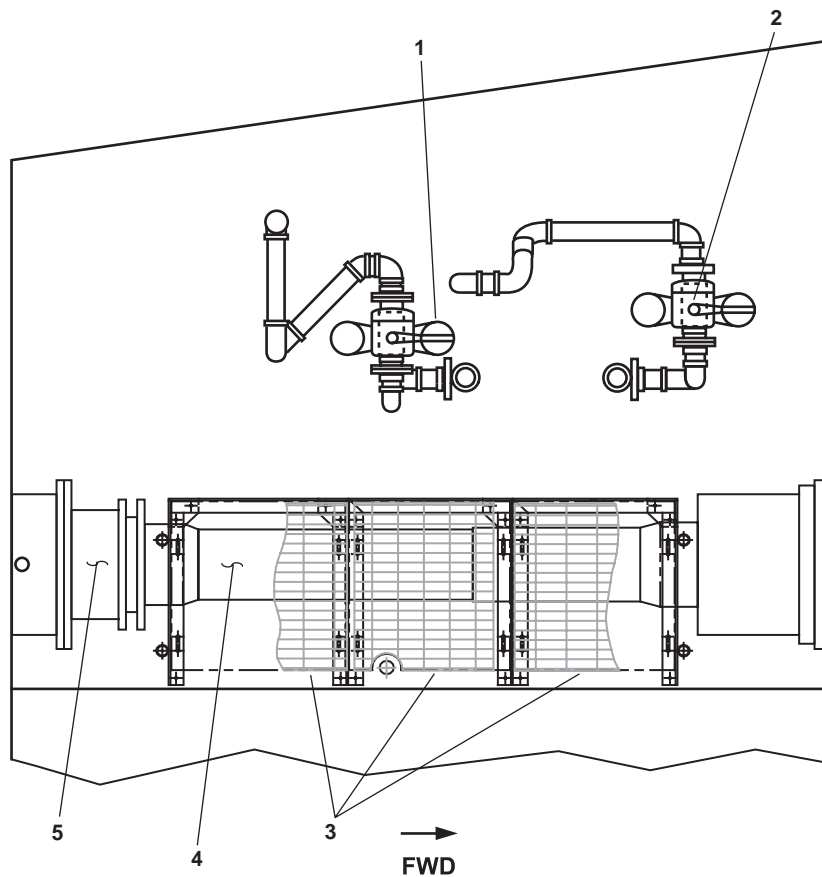

Figure 2. Port Shaft Alley
1. Aft duplex strainer (figure 2, item 1). The aft duplex strainer removes large particulates from the raw water suction to fire and general service pump 2.
2. Forward duplex strainer (figure 2, item 2). The forward duplex strainer removes large particulates from the raw water suction to fire and general service pump 1.
3. Grating (figure 2, item 3). Grating is provided to permit personnel access into the port shaft alley while the vessel is underway.
4. Port propeller shaft (figure 2, item 4). The port propeller shaft transmits torque between the reduction gear and the propeller.